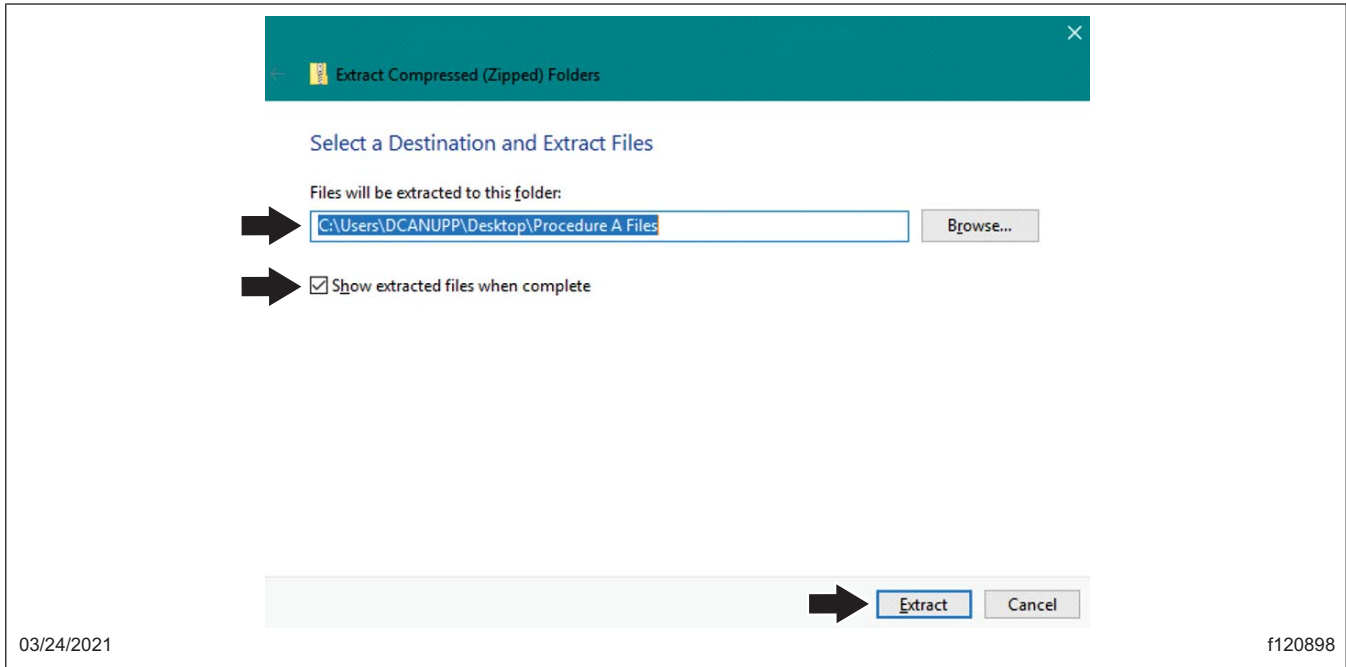

Fig. 8, Extracting the File
10. Allow the default folder location to be where the file is extracted to. Make sure the 'Show extracted files when complete' box is checked, then select the extract button. See Fig. 8.